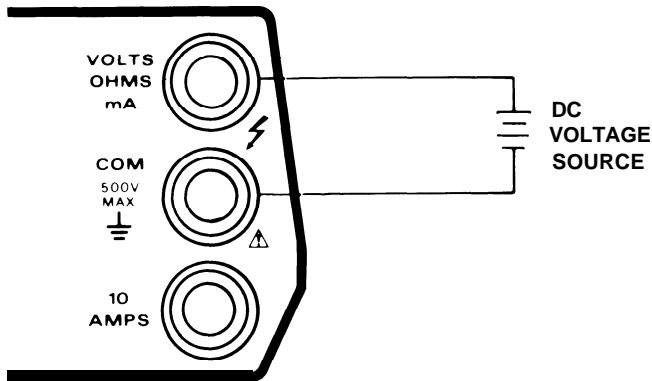

Figure 2-2. DC Voltage Measurements
- Connect the test leads to the source as shown in Figure 2-2. If the positive source terminal is connected to the COM terminal of the instrument, the display will show a negative value. If the negative source terminal is connected to the COM terminal, the display will show a positive value.